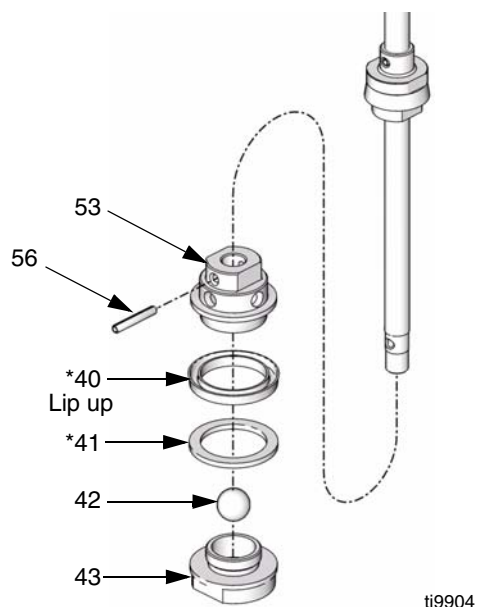

FIG. 19
8. Remove spring pin (56). Remove piston valve assembly. Unscrew piston valve (43) from piston housing (53). Remove wear ring (41\*), u-cup (40\*) and ball (42). Inspect all parts for damage. See FIG. 19.